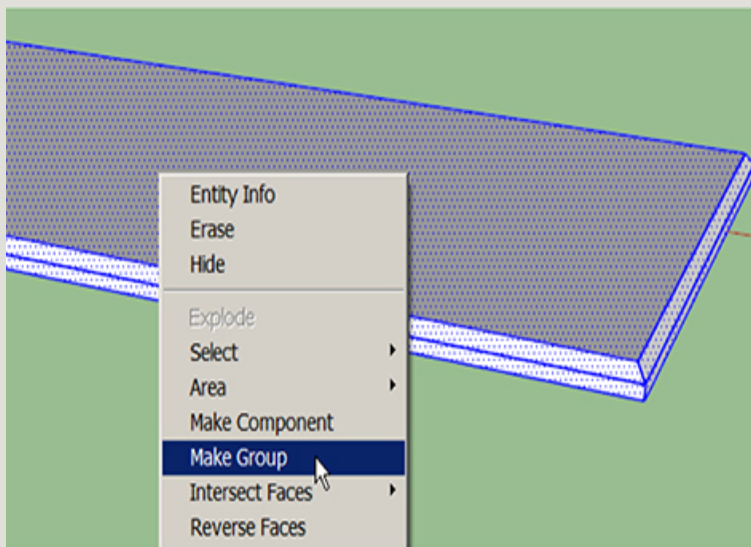

Figure 3-19 Make the stand a group.
4. Move the text to the stand. First, make the stand a group so it's easier to work with. Triple-click the Select tool on the stand, right-click, and choose Make Group (Figure 3-19). Next, click the Select tool onto the text to highlight it.